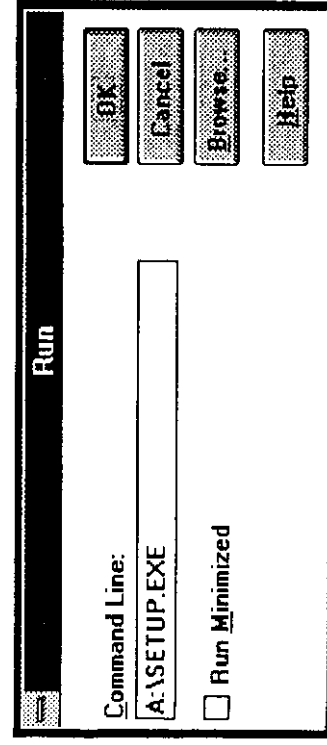

Figure 3-15.
4. TYPE in "A:\SETUP.EXE" (change the drive letter if the 3DIM AGE975x AVI driver diskette is in drive B:) and then PRESS ENTER (see Figure 3-15).